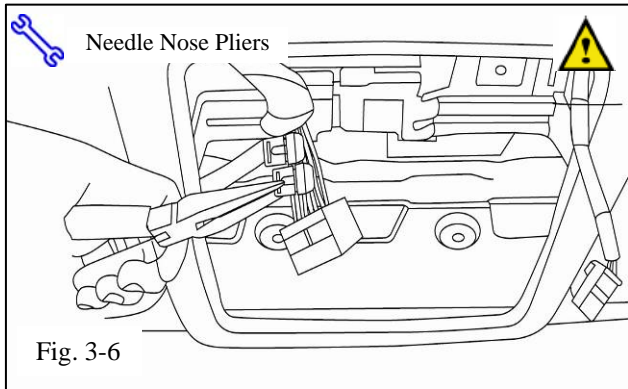

Fig. 3-6
- (f) Attach T-tap connector to LIGHT GREEN/RED (or WHITE/BLACK) wire (pin #2) on the 22-pin connector with needle-nose pliers about 1 inch from the connector. (Fig. 3-6)
- (1) Ensure both halves of T-tap connector are snapped together.